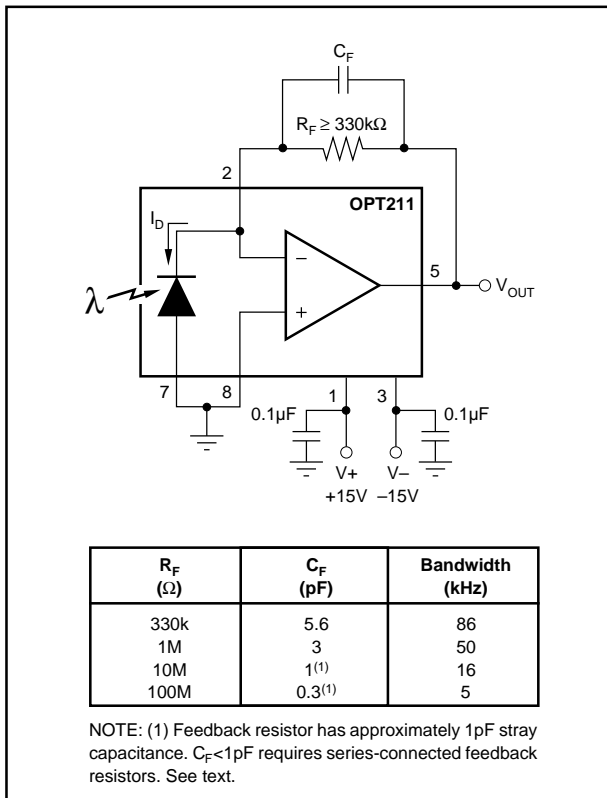
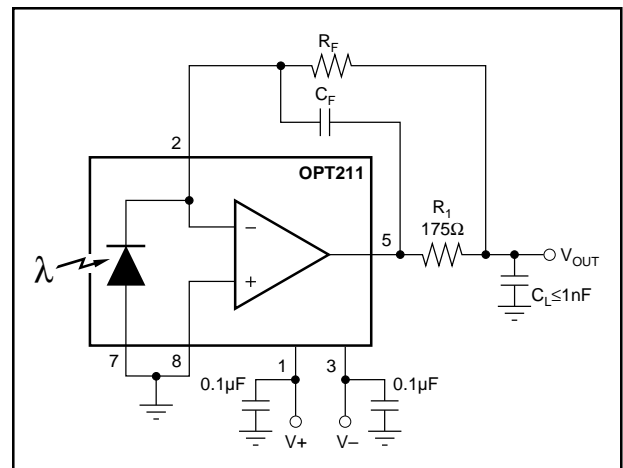
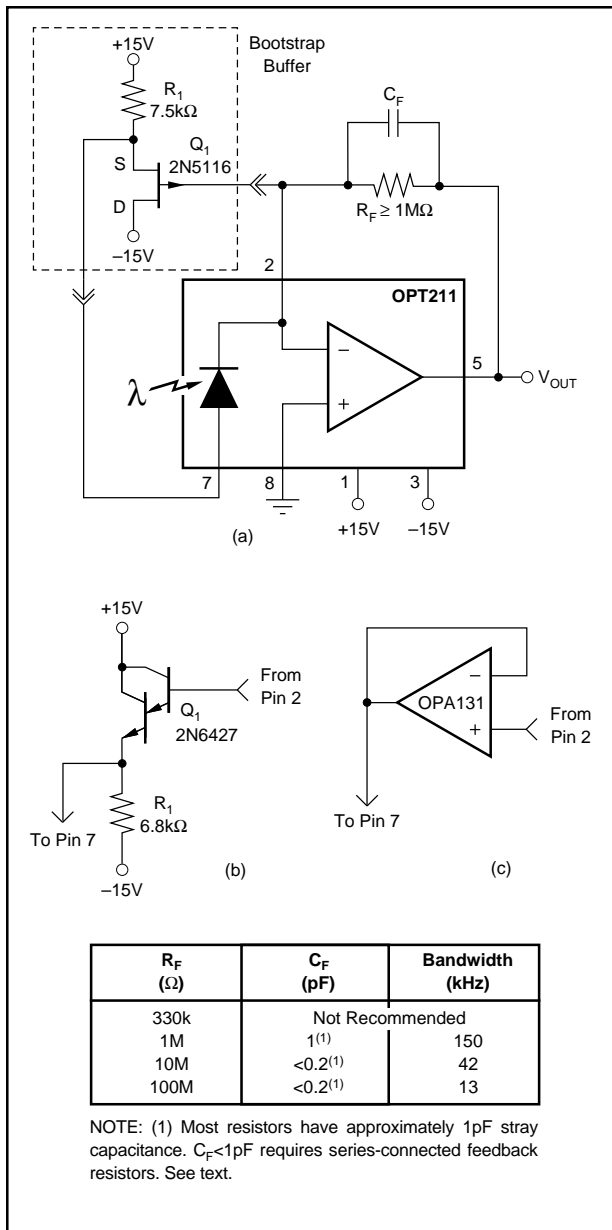

FIGURE 1. Basic Circuit Connections.
FIGURE 2. Increasing C-Load Drive.
FIGURE 3. Increasing Bandwidth with Bootstrap Buffer.
$T_A = +25^\circ\text{C}$, $V_S = \pm 15\text{V}$, $\lambda = 650\text{nm}$, external $1\text{M}\Omega$ feedback resistor, circuit shown in Figure 1, unless otherwise noted.
NOTES: (1) Referred to Output. Includes all error sources. (2) See Figure 1. (3) See Figure 3. (4) See Figure 2.
Figure 1 shows the basic connections required to operate the OPT211. Applications with high impedance power supplies may require decoupling capacitors located close to the device pins as shown in Figure 1.
The OPT211’s output voltage is the product of the photodiode current and feedback resistor, ($I_D R_F$). The feedback resistor must be greater than 330k Ω for proper stability. A feedback capacitor, C_F , must be connected as shown. Recommended values are shown in Figure 1. Capacitor values for other feedback resistances can be interpolated.
The circuit in Figure 1 can drive capacitive loads up to 250pF. To drive load capacitance up to 1nF, connect R_1 and the feedback components as shown in Figure 2.
Dark error specifications include all error sources and are tested with the circuit shown in Figure 1 using $R_F = 1$ M Ω . The dominate dark error source is the input offset voltage of the internal op amp. The combination of photodiode dark current and op amp input bias current is approximately 1.5pA at 25°C. Even with very large feedback resistors, this contributes virtually no offset error. Dark current and input bias current increase with temperature, doubling (approximately) for each 10°C increase. At 70°C, dark current is approximately 35pA. This would produce 3.5mV offset with a 100M Ω feedback resistor.
Bandwidth of the OPT211 can be increased with the feedback buffer circuits shown in Figure 3. Driving the anode of the photodiode (pin 7) in this manner reduces the effect of the photodiode’s capacitance on signal bandwidth. This “bootstrap drive” circuit boosts bandwidth by approximately 3x. Bandwidth achieved with various R_F values is shown in Figure 2. When using a bootstrap buffer, R_F must be greater or equal to 1M Ω for stable operation.
Noise performance of the OPT211 is shown in typical curves for various feedback resistor values. This curve specifies the total noise measured from 0.1Hz to the indicated bandwidth. High frequency noise is reduced with the bootstrap transistor buffer circuits shown in Figure 1. This effect is shown on the typical curve.